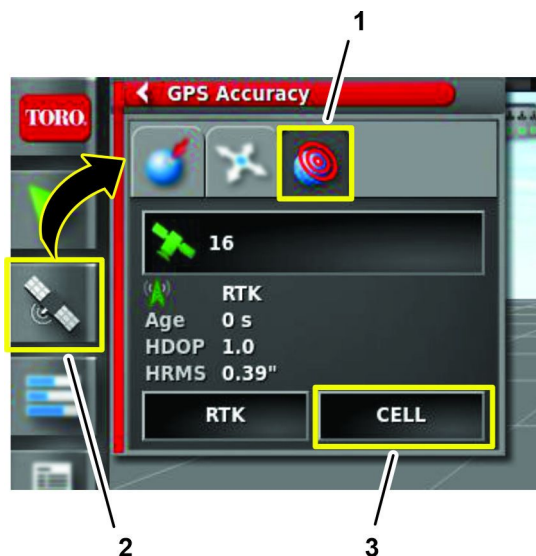

Figure 167
- On the GeoLink control console, press the GPS INFORMATION icon (Figure 167).